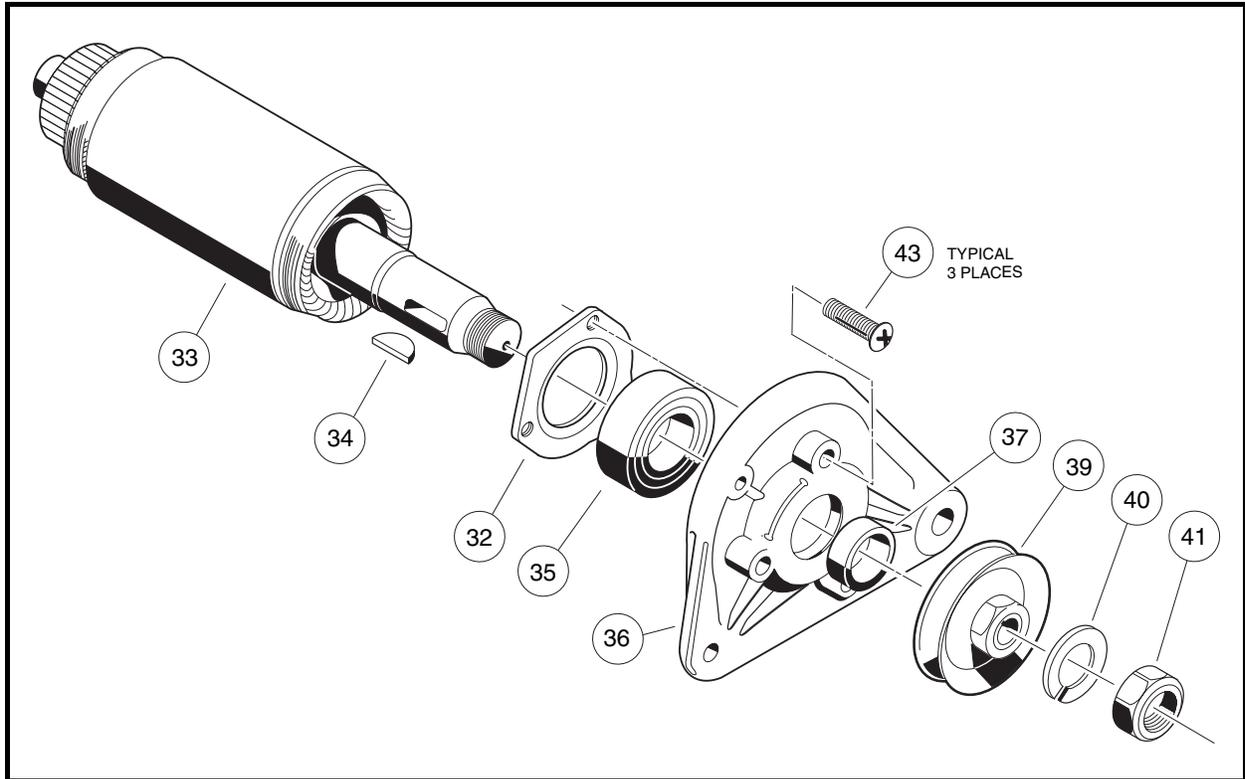
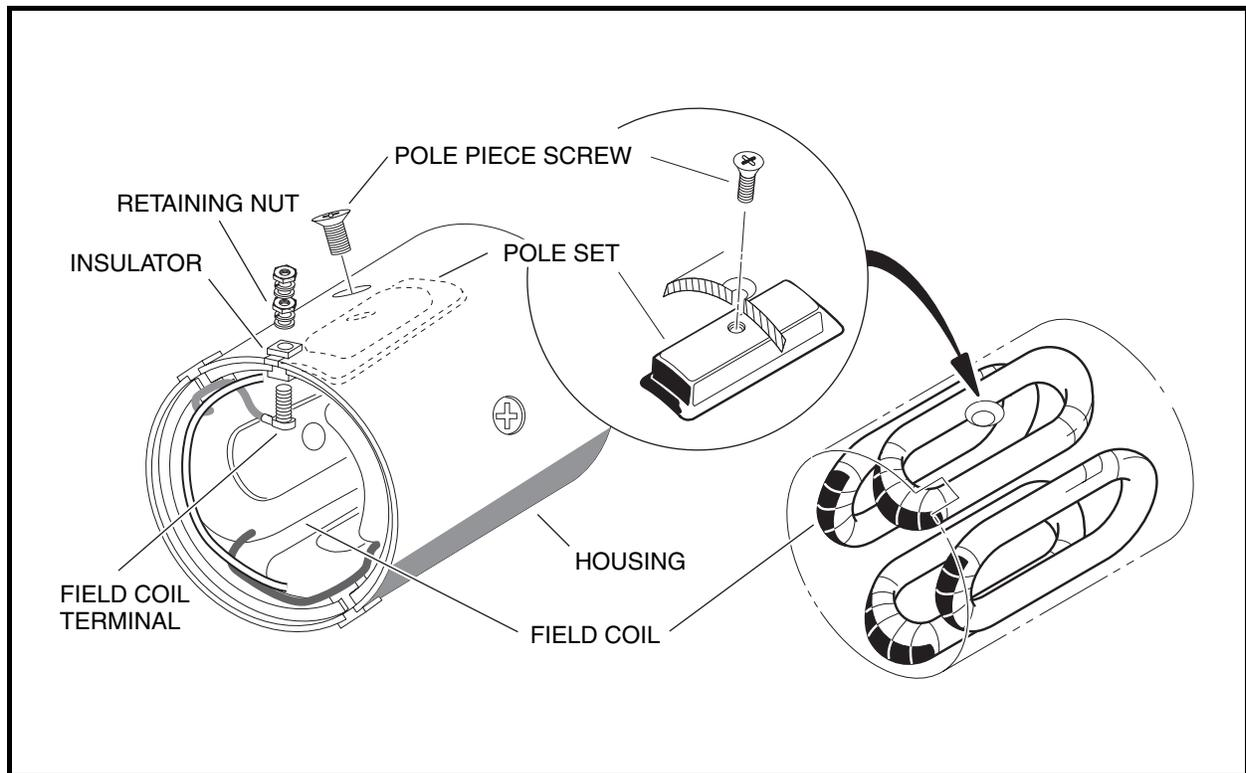

Figure 12-7 Armature and Output End Cover Assembly
Figure 12-10 Field Coil Assembly
3. To separate armature (33) from output end cover (36), remove nut (41), lock washer (40), pulley (39), shaft key (34), spacer (37), and bearing retainer screws (43) **(Figure 12-7, Page 12-5)**.
3. Slide the bearing retainer (32) off of the output end of the shaft (**Figure 12-7, Page 12-5**).
1. Remove the retaining nut from each field coil terminal and slide the insulator out of the slots in the housing. Remove the four pole piece screws from the housing. Remove the four pole pieces from inside the housing. Remove the field coils from the inside of the housing (**Figure 12-10, Page 12-7**). **See following NOTE.**
**NOTE:** Do not remove the insulators or the field coils unless an electrical test indicates that it is necessary (**Figure 12-10, Page 12-7**). See **Test Procedure 8, Section 11, Page 11-20**.
2. After the insulators are seated in the slots, install the threaded terminals through the wire connectors and then through the insulators. Install a flat washer, lock washer and nut onto each threaded terminal on the outside of the housing. Tighten nuts to 47.5 in-lb (5.4 N·m) (**Figure 12-10, Page 12-7**).
3. Install the four pole pieces into the housing. Use the four screws to secure pole pieces to the inside of the housing to retain the field wires. Tighten screws to 9 ft-lb (12.2 N·m) (**Figure 12-10, Page 12-7**).
4. Slide the bearing retainer onto the output end of the armature shaft (33) so that it will hold the outside of the bearing (35) only.
5. Press a new ball bearing (35) onto the output end of the armature (**Figure 12-7, Page 12-5**). Press a new ball bearing onto the commutator end of the armature shaft. **See following CAUTION.**
6. Install the output end cover (36) onto the armature. Secure the bearing retainer (32) to the cover and tighten the screws (43) to 39 in-lb (4.4 N·m) (**Figure 12-7, Page 12-5**).
11. Slide the spacer (37) onto the end of the shaft. Insert the shaft key (34) into the shaft. Install the belt pulley (39) onto the shaft, and install the lock washer (40) and M14 nut (41). Tighten the nut to 28 ft-lb (38.0 N·m) (**Figure 12-7, Page 12-5**).